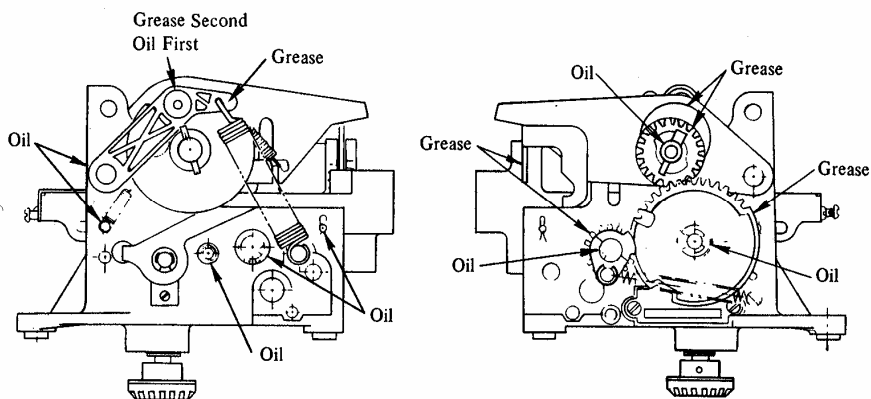

Figure 7. Lubrication Points - Zero Start Printer
(Figures 7 to 10).
2. Apply recommended or equivalent grease to bearing and mating surfaces of all bevel gears, drive gears, reset gears, wheel ratchets, ticket tray, shafts, studs, and bosses according to Figures 7 to 10.